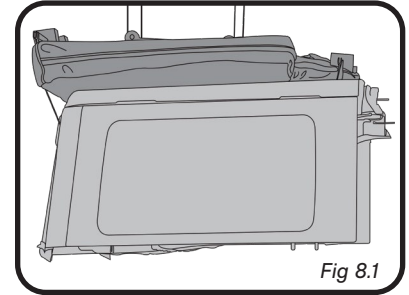

Fig 8.1
2. Slowly lift the hardtop free. If you've placed roof panels in the cargo net be sure they do not get caught on the roll bar or speakers. Raise the hardtop to the desired height/position. **DO NOT run the pulley frames into the lifters as this can damage them.** (Fig 8.1)